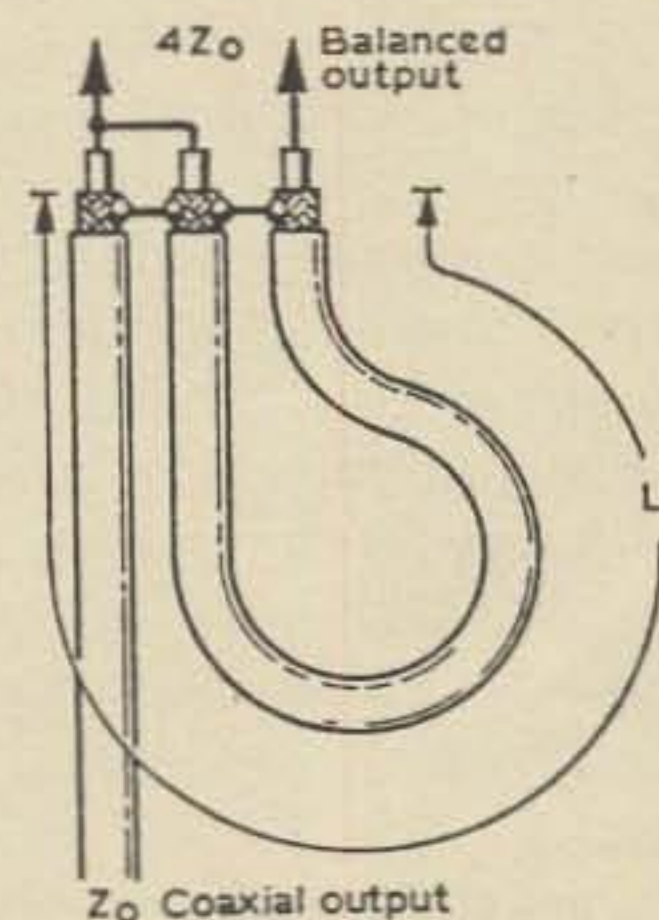

Fig. 10—The four-to-one coaxial balun. Length (L) is 0.67 of a free space half-wavelength. (Illustrations of Fig. 8 thru 10 are from "Radio Communications").
"The radiation resistance of either pair of inputs was found to be close to 300 ohms, so a 75 ohm coaxial line and balun (fig. 10) was used to feed the loop. The balun length (L) is a half-wavelength, allowing for the